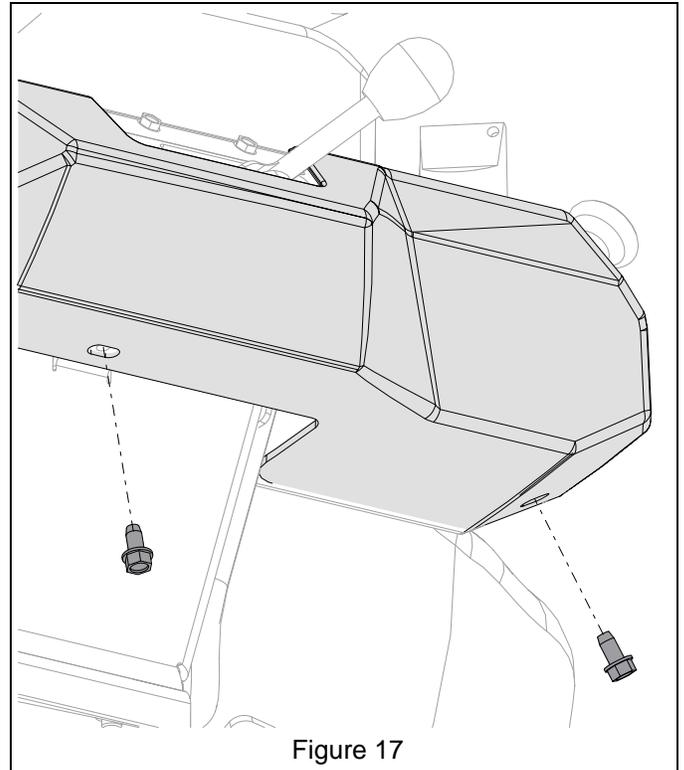

Figure 17
15. Reinstall control panel cover using original hardware. See Figure 17.